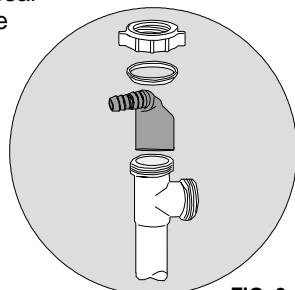

FIG. 3 -OVER-
4. Insert a new drain line adapter with barb (provided) into the top of the disposal tee until it firmly seats on the bottom of the socket. Gently secure with slip-joint washer and wing nut (provided). (See Fig. 3)